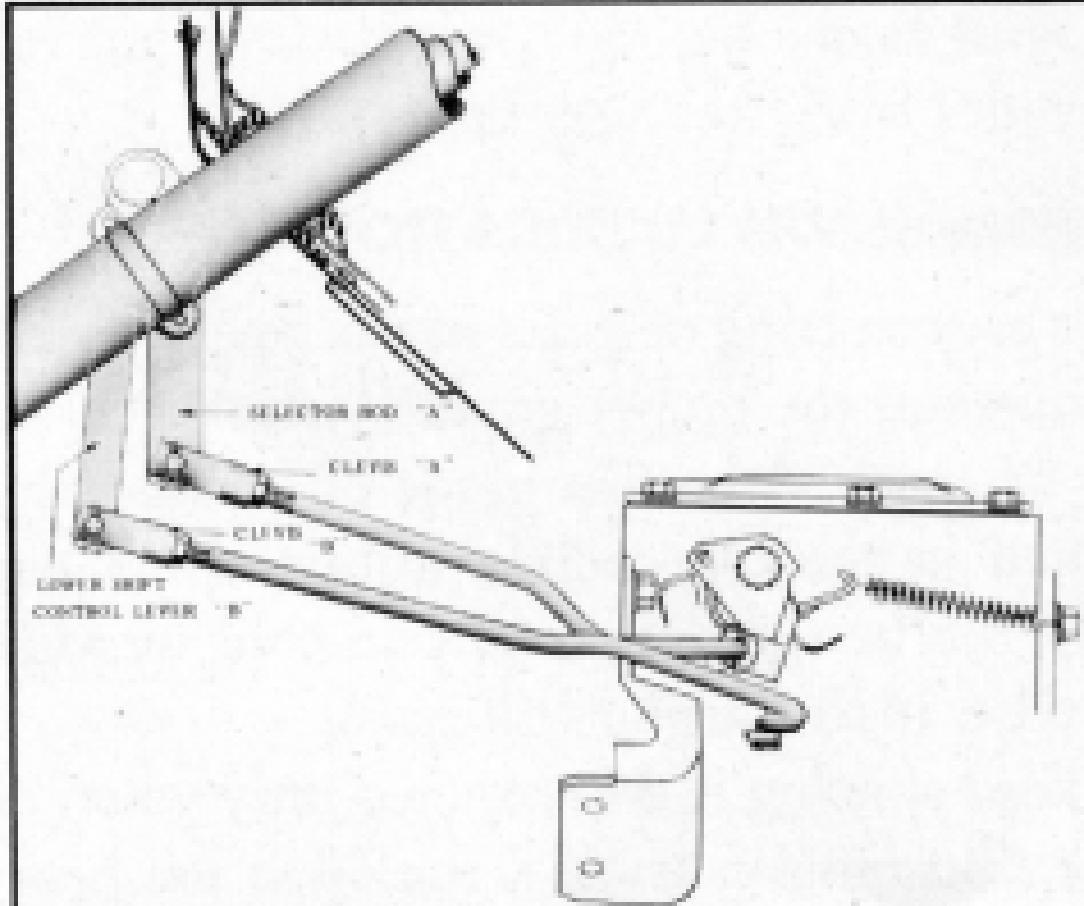

Fig. 342. Shift Control Rod Adjustment
3. With the shift lever still in neutral, remove the shift control rod clevis pin at "B", Fig. 342, and adjust clevis to obtain a dimension of $1 \frac{3}{4} \frac{1}{16}$ " (horizontal) from center line of steering wheel to center of shift control